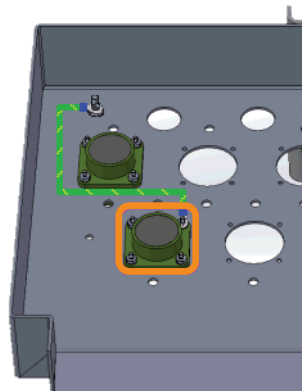

Figure 1 Install Ring Terminal
- Step 1. Install the 3-pin cable for input power in the bottom of the cabinet in the leftmost hole in the front row. Insert the receptacle from the inside of the cabinet and the four screws from the outside. Install the nuts on the screws from the inside of the cabinet. See *Figure 1*.
- Step 2. Install the smaller ring terminal of the green/yellow ground wire to the last connector screw and secure it with the last nut. See *Figure 1*.
- Step 3. Use the existing nut to connect the larger ring terminal of the green/yellow ground wire to the ground stud. See *Figure 1*.